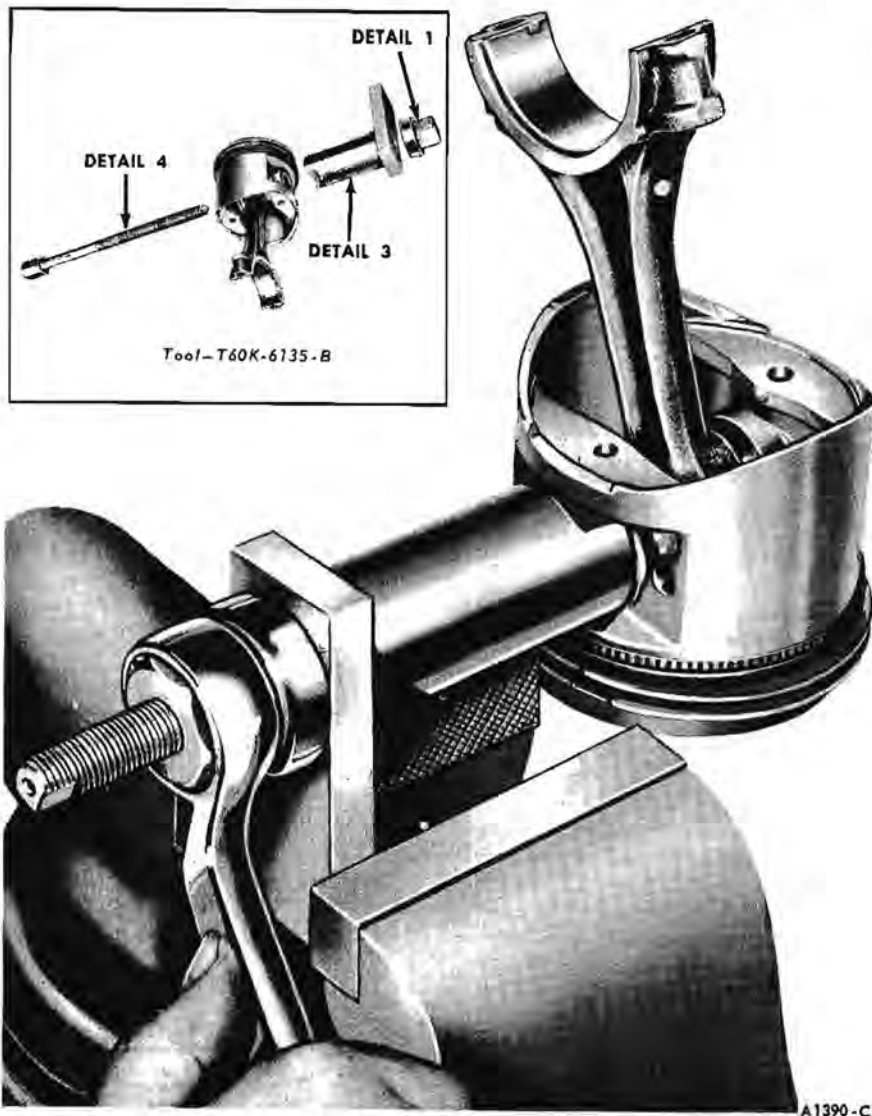

FIG. 40—Piston Pin Removal
3. Remove the piston pin from the piston and connecting rod using the tool shown in Fig. 40. Remove the piston rings.